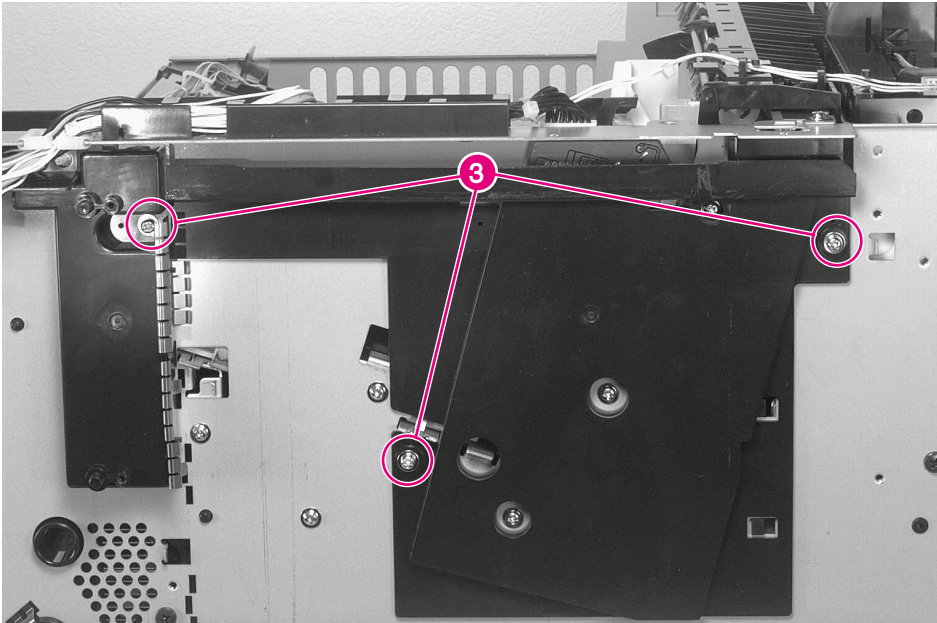

Figure 6-46 **Output Paper Sensor PCA (3 of 4)**
- 4 Remove 3 screws (figure 6-46, callout 3), and remove the plastic PCA shield. (Note the positioning of the metal grounding fingers at the left of the shield.)